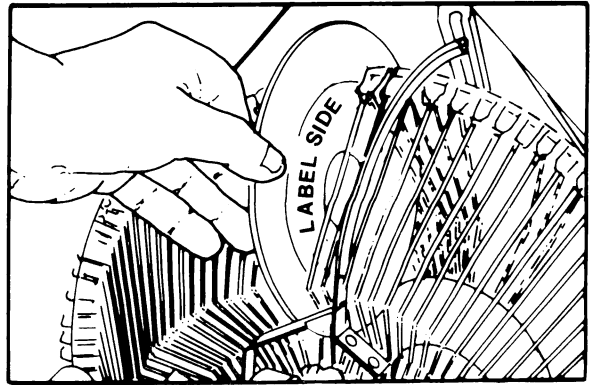

Figure 3-6. Changing a Disc
4. Slide the old CD out of the slot and slide the new CD into the slot (*see figure 3-6*) with the label to the right. Write the disc number on a note pad.